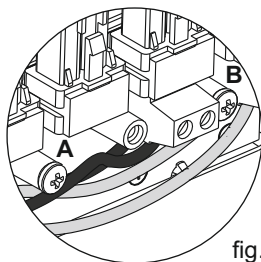

fig.4
- Press the Auxiliary Adaptor Unit firmly against the connection unit and tighten fixing screws A & B until they are just seated against their respective shoulders (fig.4) – Do not over tighten! (0.2Nm max).